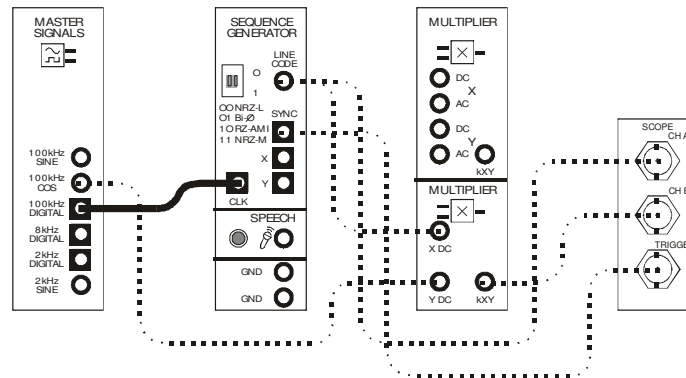

Figure 4
16. Modify the set-up as shown in Figure 4 below.